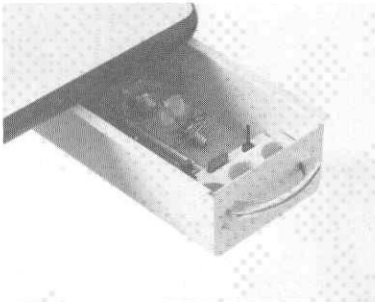

Fig. 21
(9) Storage of Accessories
Store the standard accessories supplied with the instrument in the accessory drawer②, as shown in Fig. 21, in the case of table①.